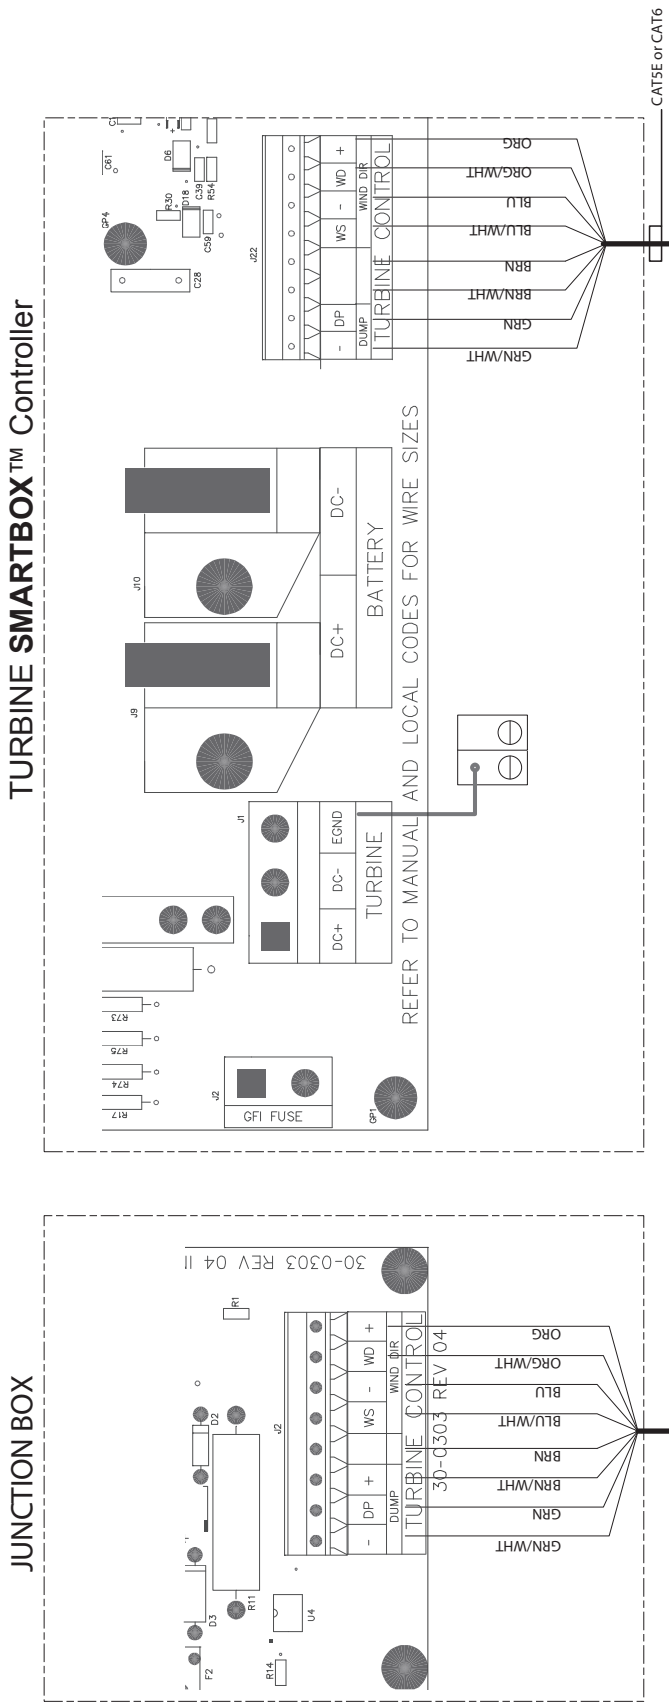

Figure 2.12 Control Wiring Chart
6. Run turbine control wiring. Reference the turbine control wiring diagram on page 19; Figure 2.12.